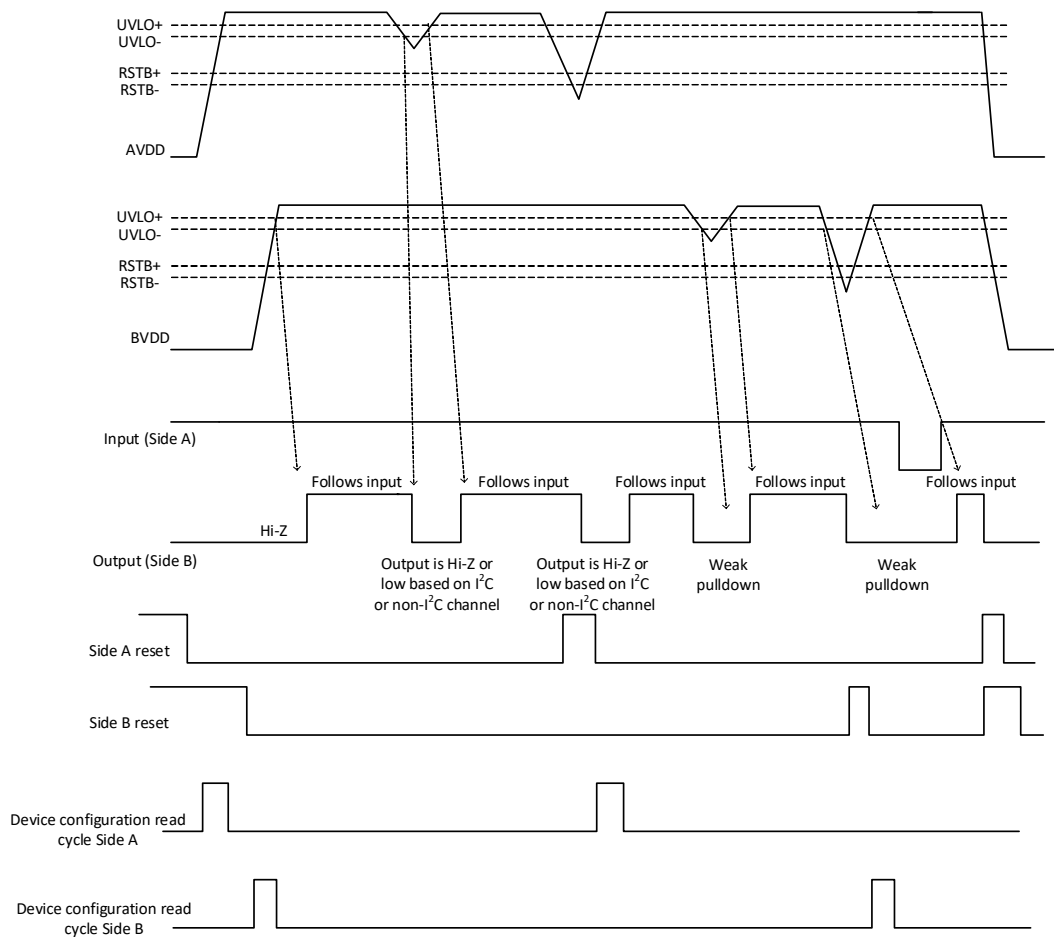

Figure 5. Device Behavior During Startup
Undervoltage Lockout (UVLO) is provided to prevent erroneous operation during device startup and shutdown or when VDD is below its specified operating circuits range. Side A and Side B each have their own undervoltage lockout monitors. Each side can enter or exit UVLO independently. For example, referring to Figure 5, Side A unconditionally enters UVLO when AVDD falls below UVLO– and exits UVLO when AVDD rises above UVLO+. Side B operates the same as Side A with respect to its BVDD supply.
- Powered (P) state is defined as 3.0 V < VDD < 5.5 V.
- Unpowered (UP) state is defined as VDD = 0 V.
- Refer to Figure 5, "Device Behavior During Startup," on page 5. This shows the start-up time from unpowered state, below 1.7 V (RSTB) threshold to powered state, is 0.3 ms. If VDDO only dips below 2.1 V (VDDOK level in diagram below) but stays above RSTB level, the start-up time is 1  $\mu$ s.